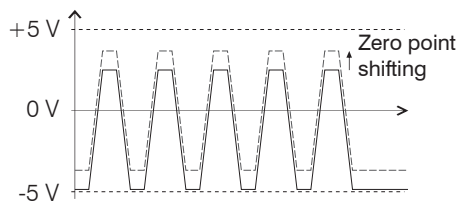

Fig. 15 Output signal on the controller, optimum zero point
- ➡ Shift the zero point with the potentiometer “zero” until you get a symmetric output signal, see Fig. 15.